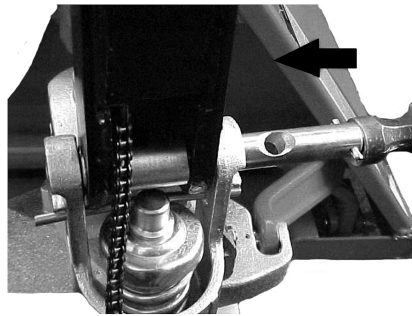

Figure 2
- Insert the draw-bar into the pump piston. Use a hammer to insert the axle with hole into the hydraulic pump and draw-bar from right to left (See Figure 2).